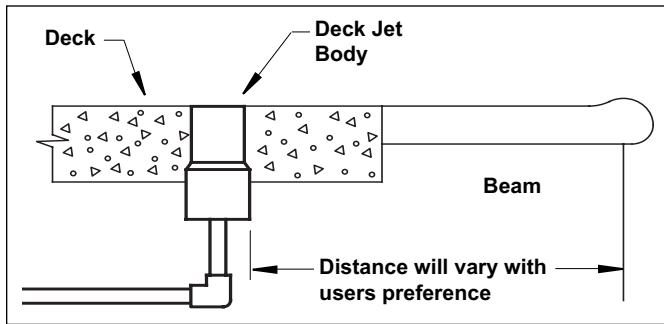

Figure 3. Deck Jet Location
5. Anchor the Deck Jet Body (include the protective cover) so that it will be level **and** at the same height as the finished deck (see Figure 3).